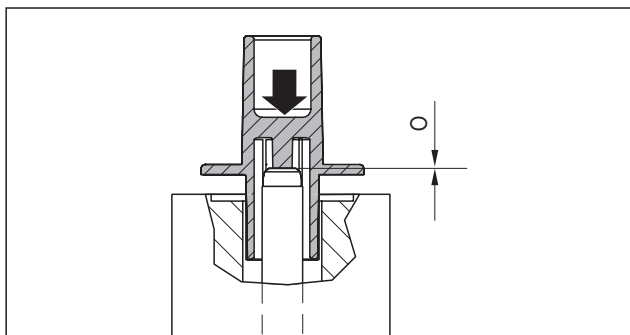

Fig. 54 Completely attach the adjustment tool
4. Completely attach the adjusting tool with the smooth side on the espagnolette bolt (Fig. 54).